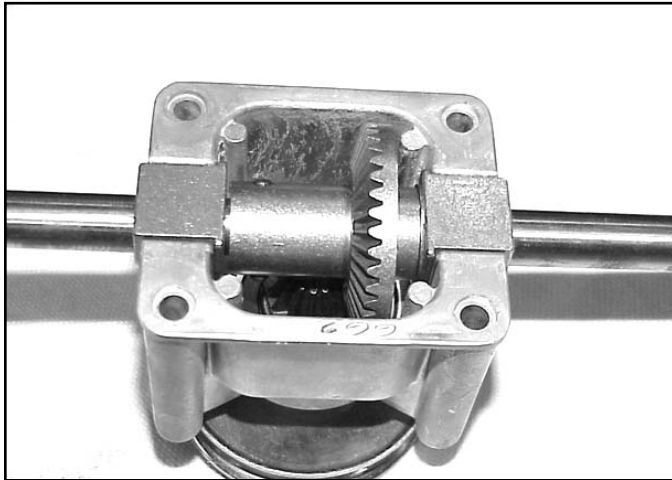

Fig 106
1. Remove the 4 screws holding the cover on the transmission. The axle, bearings, and bevel gear can be lifted out (Fig. 106).